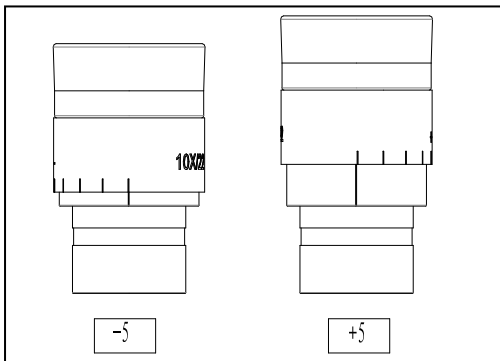

Fig6
**10X Eyepiece diopter scale (Fig 6)**